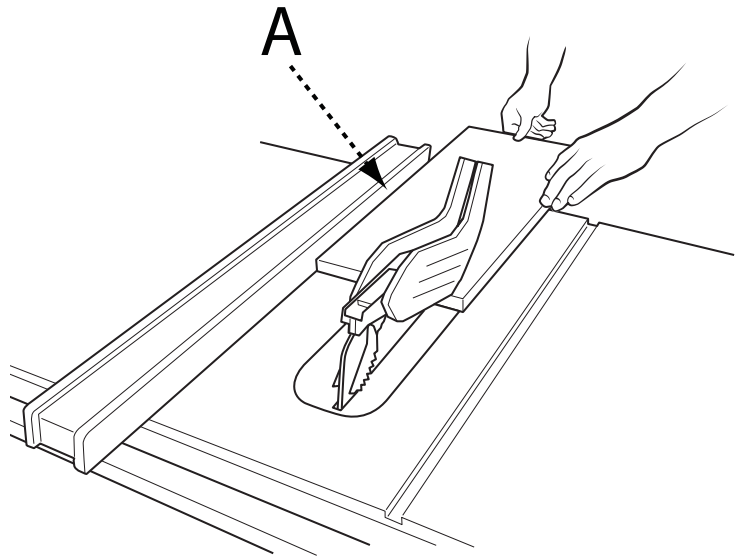

FIGURE 13
8. Hold the workpiece flat on the table and against the fence (A). The workpiece must have a straight edge against the fence and must not be warped, twisted or bowed. See proper hand position in Figure 13.